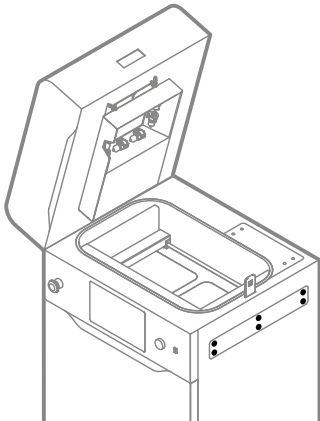

Fig. 13.64 Remove six screws from the access panel.
6. Using a 2.5 [mm] allen key, remove the six screws securing the access panel on the right side of the printer (fig. 13.64).